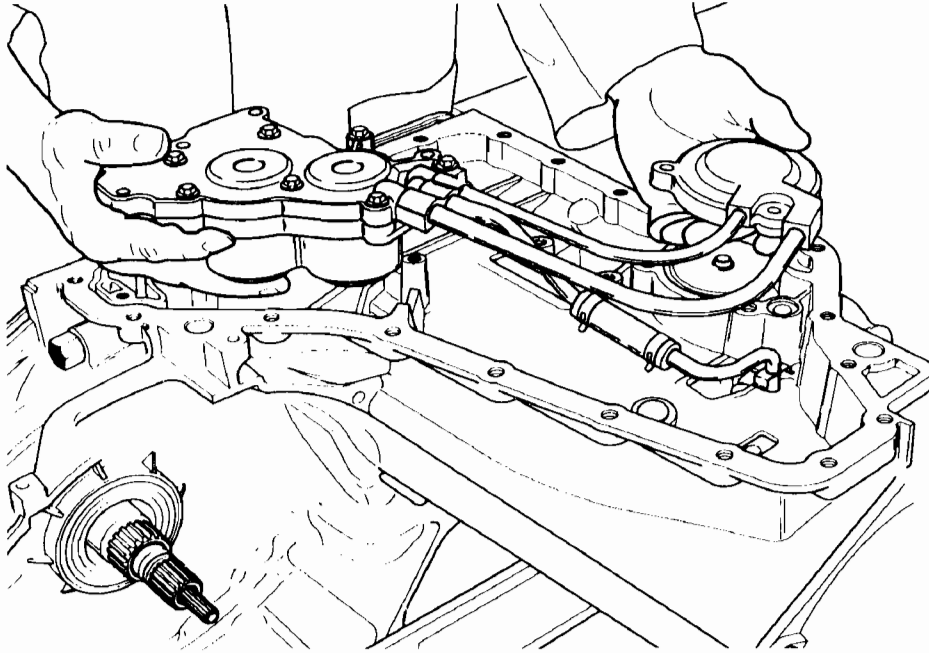

Figure 2
**CAUSE:** The cause may be, the rear lube pipe and the apply pipe for the 2-1 manual servo, reversed in the accumulator housing cover (See Figure 2). This will allow lube oil to apply the 2-1 manual servo and the band as soon as the engine is started.
*Figure 2 shows the "Incorrect" assembly of the pipes.*